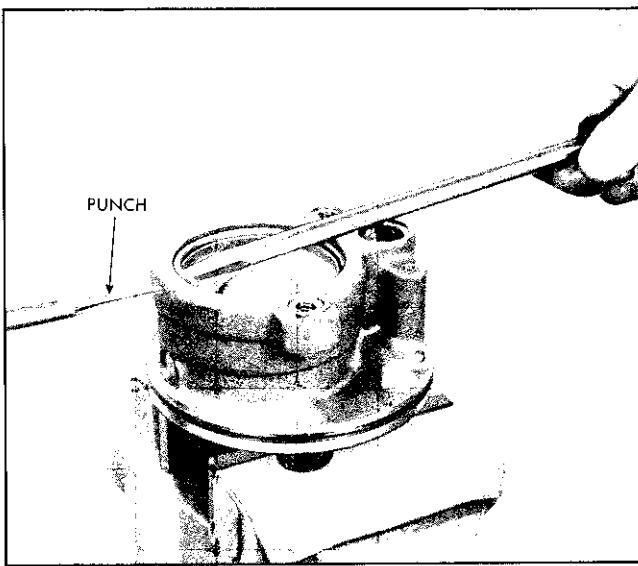

Fig. 9-73 Removing Retaining Ring
5. Remove end plate retaining ring. Push end plate retaining ring out of groove, using a punch through 1/8" diameter hole in pump housing (Fig. 9-73) and remove with screwdriver. End of retaining ring should be next to hole to ease removal.